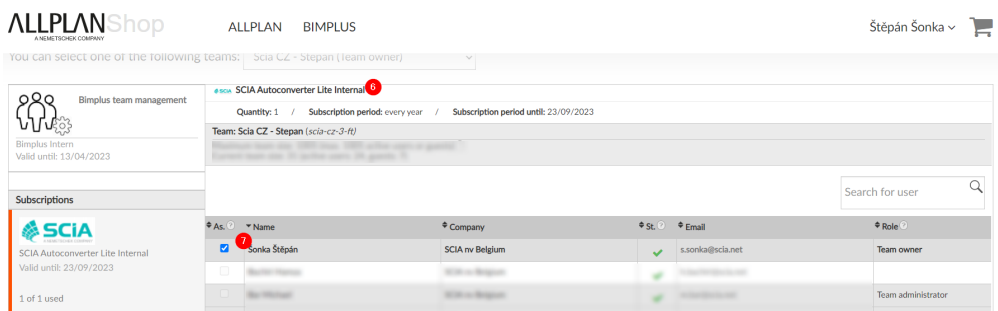

Figure 47: License assignment
6. Here you can see your selected product for assignment. (Figure 47)
7. Use the check-boxes for licenses assignment for a specific member of the team. Figure 47